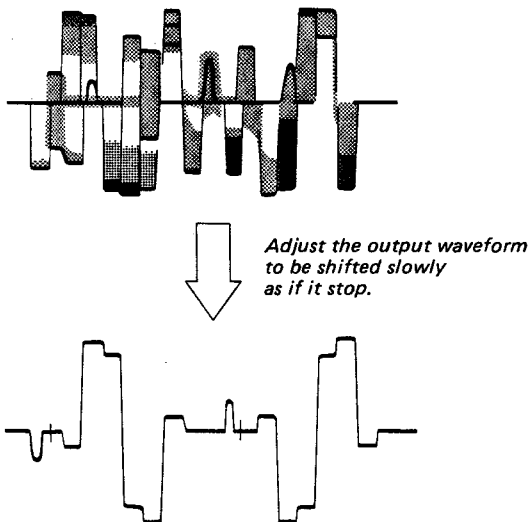

Fig. 5-84.
5. Adjust CV1 on the BA board so that the output waveform is shifted slowly. (See Fig. 5-84.)